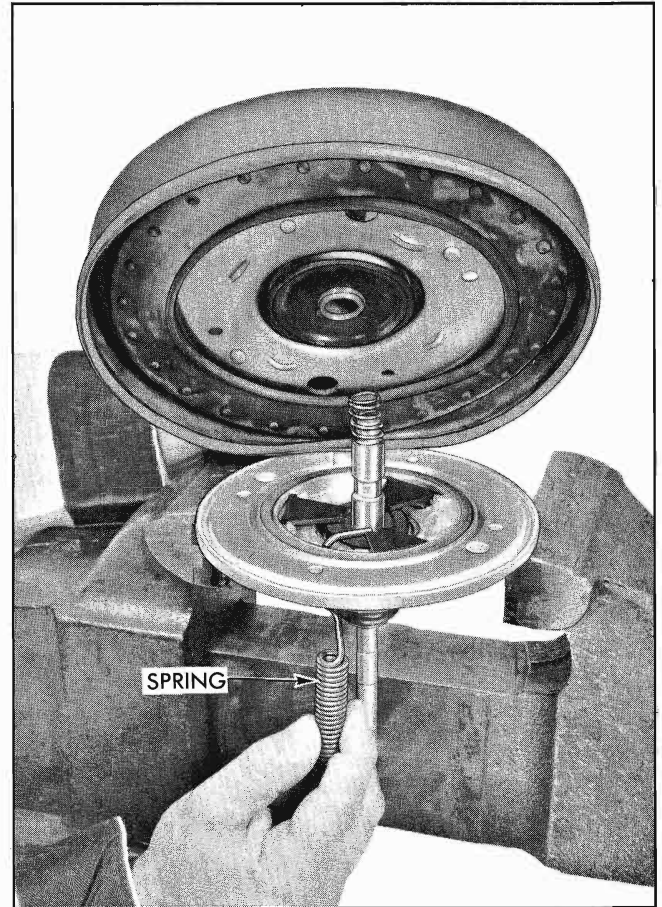

Fig. 5-M-19 Installing Rolling Diaphragm with Aid of Tool
19. Depress air valve reaction plate against spring load, holding it down with a hook up through one of the kidney shaped air passages in the power piston. (See Figs. 5-M-18 and 5-M-19).